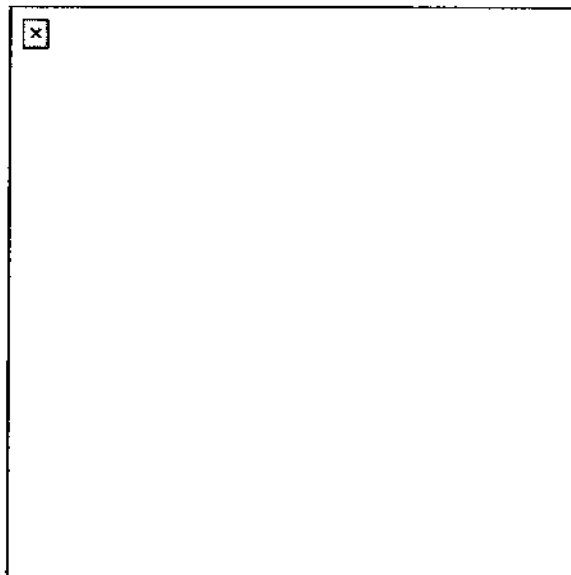

Figure 3. Prepared automatic weapon position.
- (4) Remove all glass from the window to prevent injury from flying glass.
- (5) Leave curtains in place--they will permit the firer to see out and prevent the enemy from seeing in.
- (6) Prevent revealing the position caused by dust from the muzzle blast of the weapon. Place a wet blanket over dusty surfaces in front of the weapon's muzzle or wet down those surfaces (Figure 3).